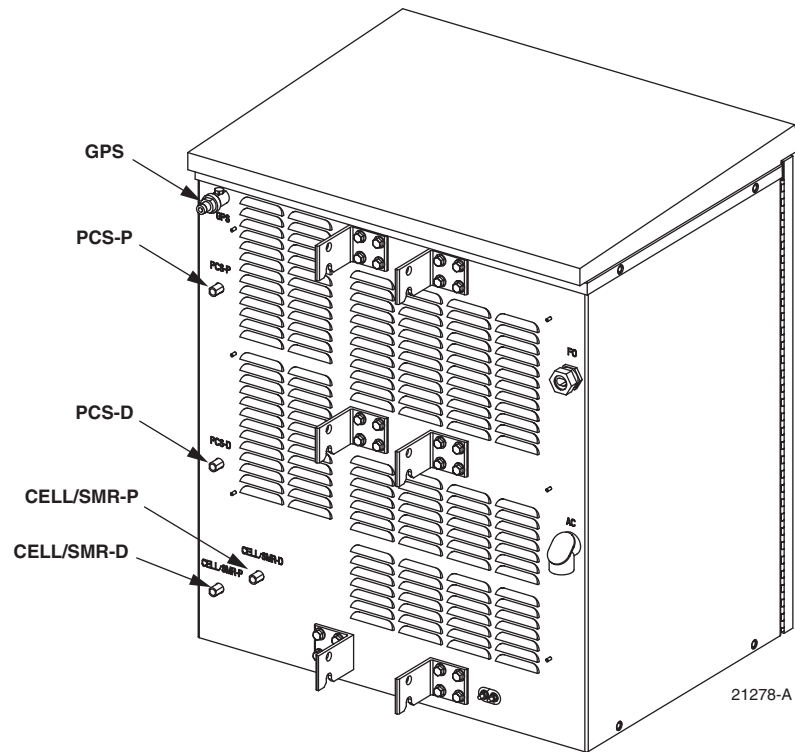

Figure 33. Installing the RF Cables
3. Attach each end of the cables to the appropriate connectors on the antenna base and the RAN. Refer to Figure 33 and Table 21.